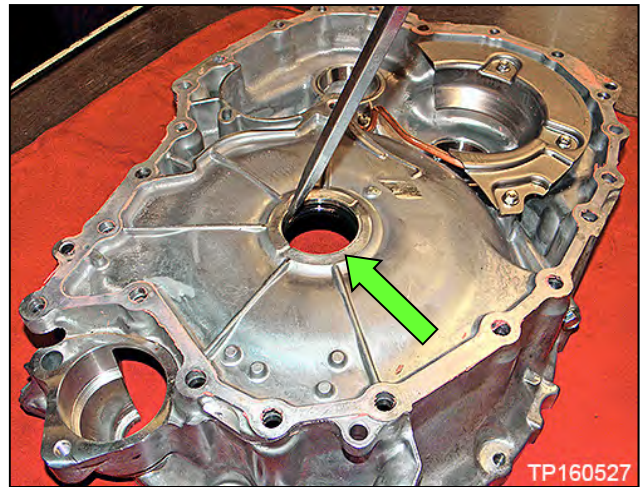

Figure 38
- b. Torque converter seal (Figure 38).